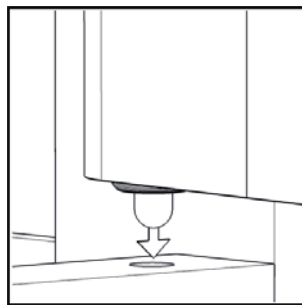

Figure 4
Attach Doors (K) and (L) by inserting the lower Spring Pin into the hole until it clicks (see figure 4) and then do the same for the upper Spring Pin.